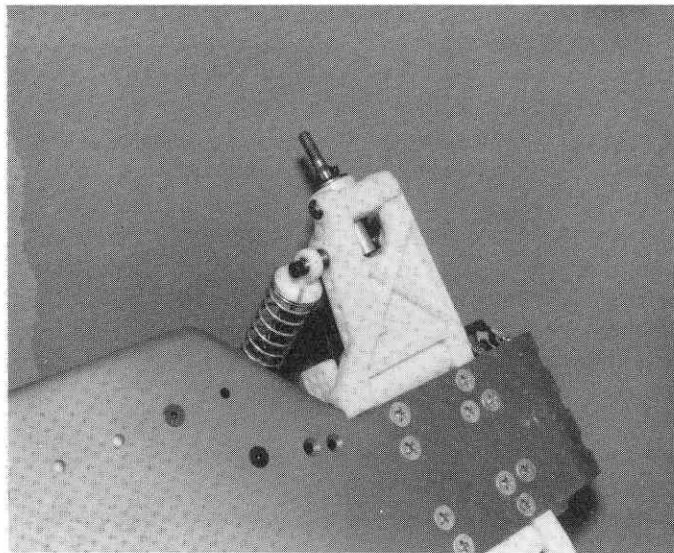

Fig. 137a
□ **Fig. 137a** For the shock bottom installation we want the flat part of the metal ball end to be against the "A" arm, as shown. In the "A" arm, there are 4 holes. Install it in the outside hole, as shown. Slip a washer on the screw, and install the screw.